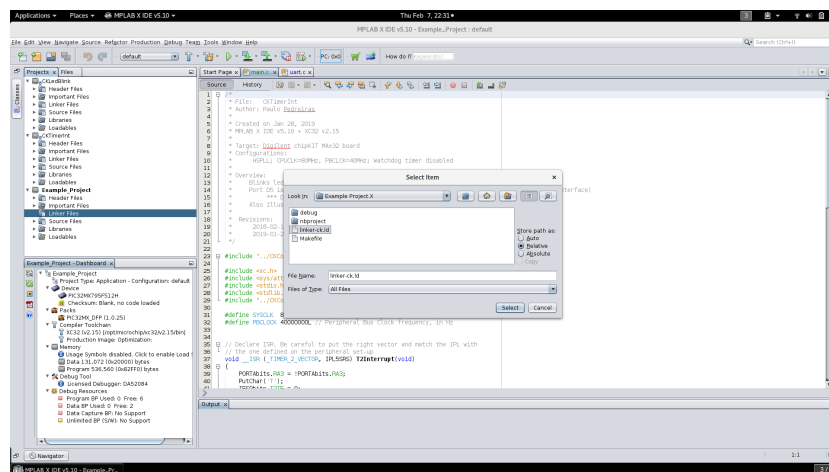

Figure 6: Copying the linker script file. **!!!Only if using a bootloader!!!**
8. If using the bootloader, **!!!and only in this case!!!**, copy to the project folder the file “linker-ck.ld”, click with the right mouse button on “Linker Files”, select “Add Existing Item” and then navigate to the project folder and select the linker file (linker-ck.ld) (Figure 6)